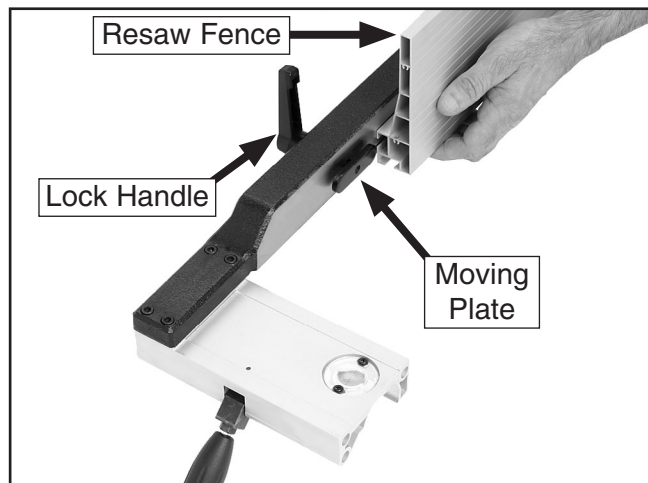

Figure 25. Attaching resaw fence to standard fence.
- Slide the resaw fence over the moving plate, as shown in **Figure 25**, so the moving plate fits inside the channel of the resaw fence.